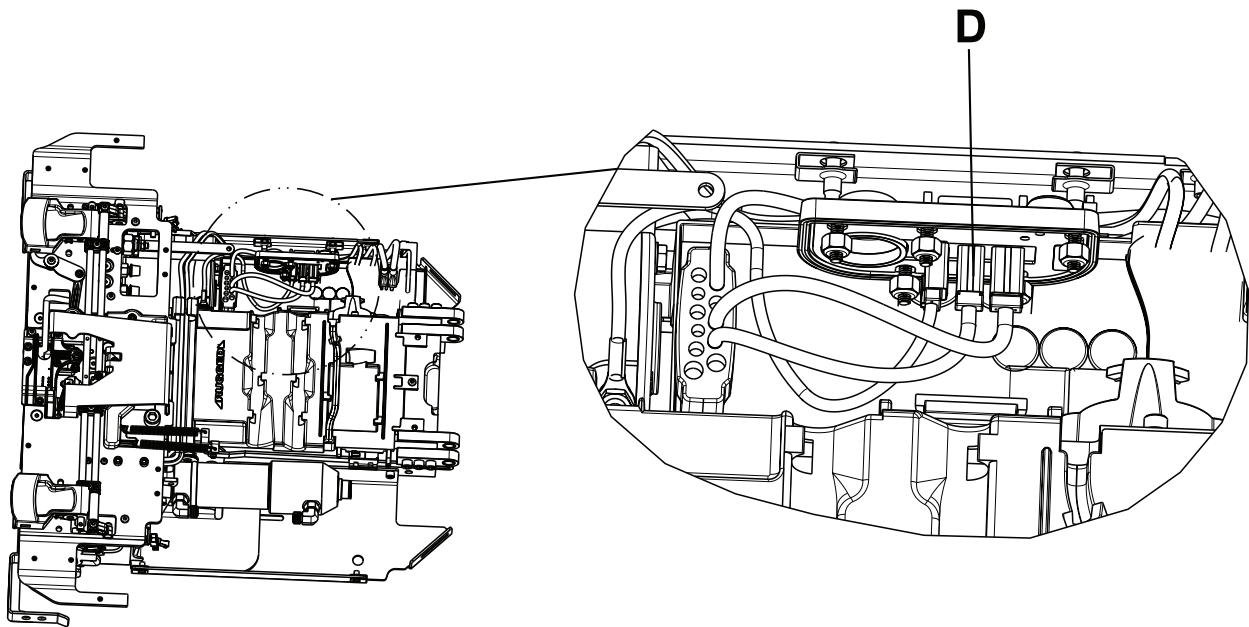

Figure 9 – On/Off switch cable locations
7. Unplug the cables from the master On/Off switch (D) and remove the manual release button assembly (Figure 9).